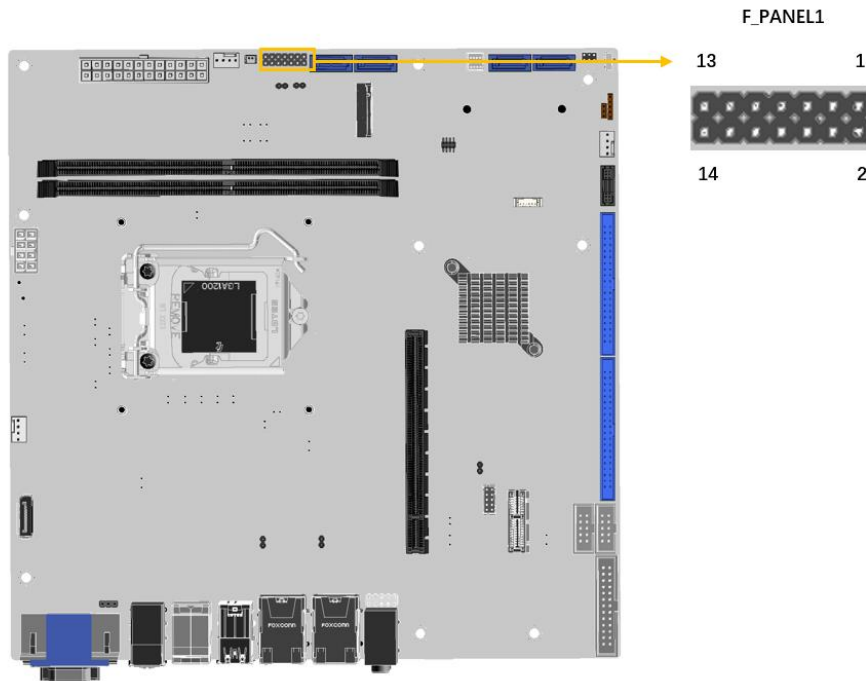

Figure 3-14: Front Panel Connector Location
- CN Location:** See Figure 3-14